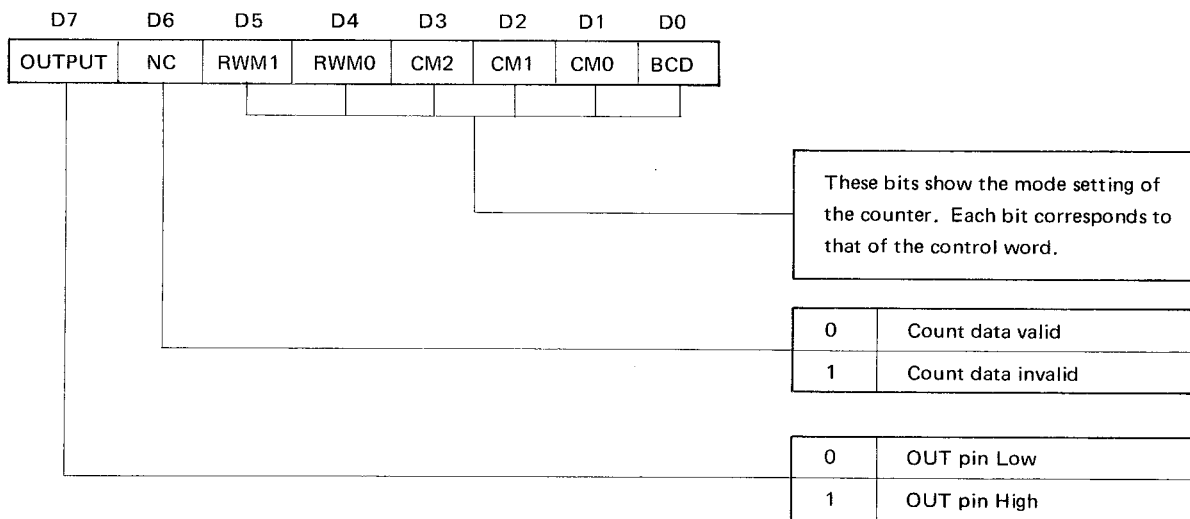

Fig. 4-5 Status Data
When the \overline{COUNT} bit [D5] is 0, the count data of the selected counters are latched in the count latches. When the \overline{STATUS} bit [D4] is 0, the status data (see Fig. 4-5) of the selected counters are latched in the status latches. Bits D5 to D0 of the status data show the mode status of the counter and the OUTPUT bit [D7] shows the state of the OUT pin of that counter. The Null Count (NC) Bit [D6] indicates whether or not the count data is valid. When the count is transferred from the count register to the down counter, this bit changes to 0 showing that the new data is valid (refer to Table 4-4).